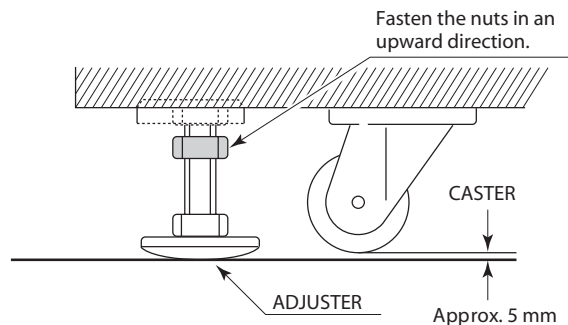

FIG. 6.1c Aligning the Adjusters
2. Bring the adjusters into direct contact with the floor. Use a wrench to align the height of the adjusters until the cabinet is perfectly level. If the floor is level, the machine should be level with the casters about 5 millimeters from the floor. (FIG. 6.1c)